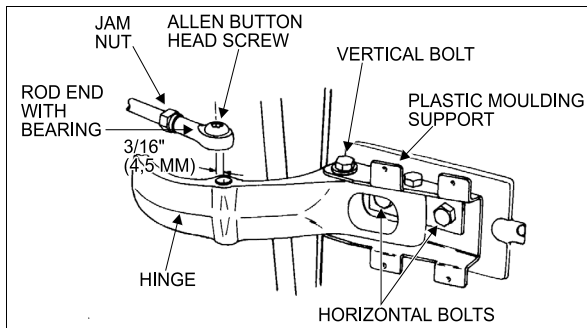

FIGURE 28: UPPER DOOR HINGE
- Remove the Allen button head screw and the washer retaining the rod end with bearing to the upper hinge. See Figure 28.